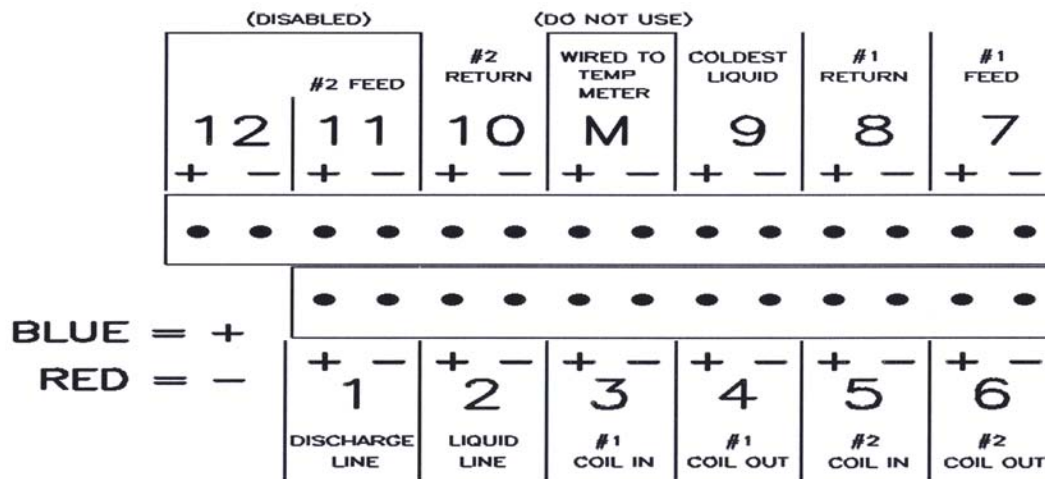

Figure 3-23: Thermocouple (TC) positions identification
2. Attach the thermocouple wires to their designated locations. The blue-insulated copper wire must be attached to the positive (+) terminal. The red-insulated constantan wire must be attached to the negative (-) terminal. (See Figure 3-23.)